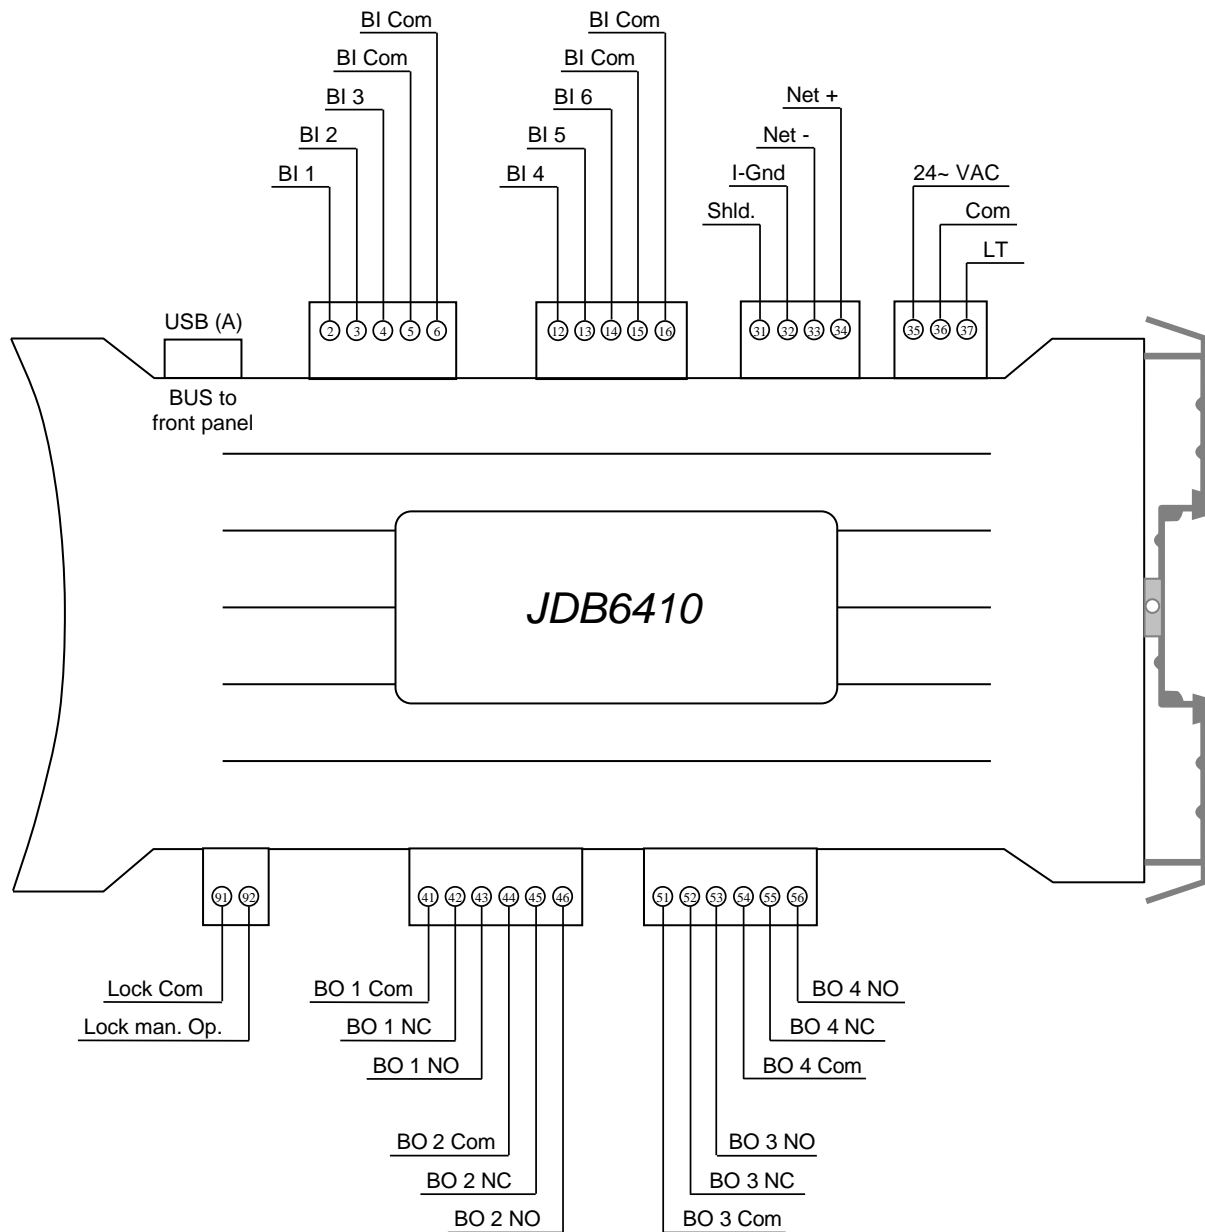

Figure 1: JDB6410 Module Wiring Interface
1. Terminate wiring per engineering drawings (see Figure 1).